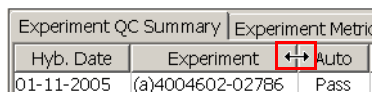

Figure 4.25 Adjusting Column Widths
2. Click, hold and drag the column divider to the desired width (Figure 4.25).